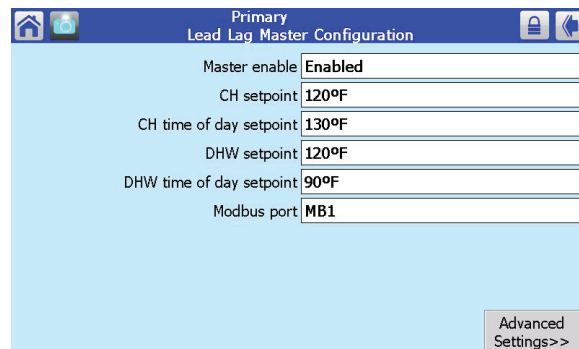

Fig. 82 – Lead/Lag Master Configuration
- Press the Configure button. The display will present the Lead/Lag Master Configuration Screen (Fig. 82).
This is the same as the LL CH Setpoint on the Lead/Lag Master Configuration screen (Fig. 82).
This is the same as the LL CH Time-Of-Day Setpoint on the Lead/Lag Master Configuration screen (Fig. 82). (See the material on “About the ‘Time of Day’ Function at the end of this section)